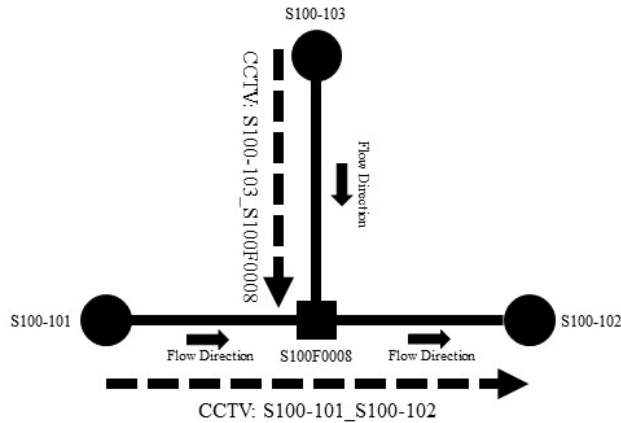

Figure 2.1: Performing Sewer Pipe Inspections
- A. Contractor shall perform sewer pipe inspections from access point to access point unless a pipe converges into another pipe alignment at a fitting; then the inspection shall be performed from access point to fitting as shown in figure 2.1.